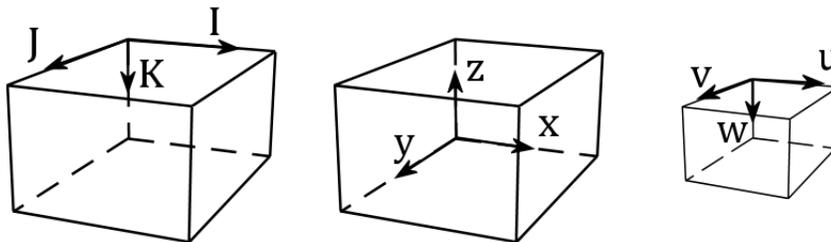

Figure 5.2. Coordinate systems used by Format 1 and Format 2.
- **I, J, K, u, v, w, [r, t].** A line contains the data for a starting location. Repeat as often as needed. Refer to Figure 5.2, [**I, J, K**] are the [column, row, layer] indexes of the cell containing the starting location; [**u, v, w**] are the local coordinates (ranging from 0 to 1) of the starting location within the cell. The origin of [**I, J, K**] is
- **x, y, z, [t]**. A line contains the data for a starting location. Repeat as often as needed. Refer to Figure 5.2, $[\mathbf{x}, \mathbf{y}, \mathbf{z}]$ are the coordinates of the starting location; the origin of $[\mathbf{x}, \mathbf{y}, \mathbf{z}]$ is the lowest northwest corner of the model. \mathbf{t} is the release time measured from the beginning of the flow simulation in the same time unit as the model.